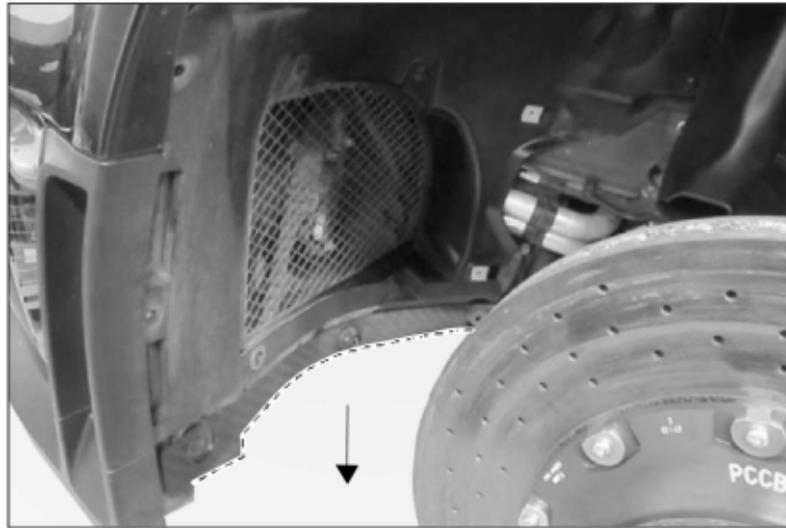

Figure 26
5. – Bend down the carbon underbody panel and move the wheelhouse liner into position. The underbody panel can then be moved back to its original position. Secure the wheelhouse liner at the positions shown ⇒ *Figure 26* using the standard screws. **ST 4.8 x 19 tapping screw: Tightening torque 2.36 ft-lb / 3.2 Nm (2.36 ft-lb)**